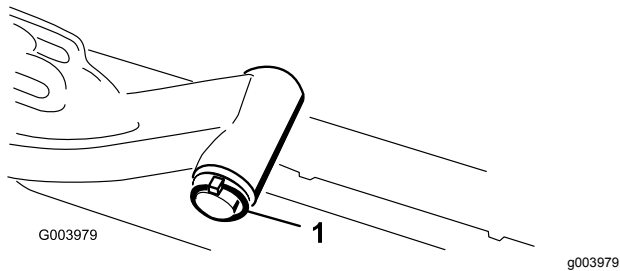

Figure 12
- A. Remove the lynch pin and washer securing the lift-arm-pivot shaft to the lift arm and slide the lift-arm-pivot shaft out of the lift arm (**Figure 12**).
- C. Insert the lift-arm shaft into the lift arm and secure it with the washer and lynch pin (Figure 12).